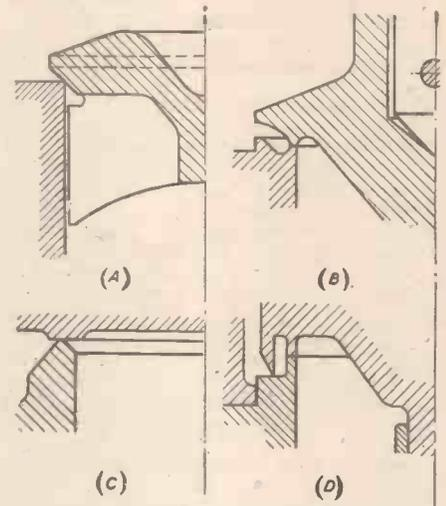

Fig. 2.—Different types of valve seating surfaces.
and earlier valves) is employed, riding on a slightly rounded seat edge as seen in Fig. 2 (A), while in some other designs a pair of narrow surfaces mate. The latter appears to function satisfactorily, but has one possible defect—the sticking of any grit on either surface will cause constant blowing regardless of pressure. Fortunately this rarely happens, the rush of steam when the valve lifts usually cleaning both surfaces thoroughly.
At this time numerous experiments proved the advantages of the lip shown in Fig. 2(B), the lift of the valve being found to increase immediately the steam pressure forced an opening, so obtaining the requisite increased lift times the periphery of opening to give the necessary discharge. By increasing the lift it was found possible to reduce the valve diameter, and various devices were adopted then to obtain increased lifts. In one design it was found that considerable back pressure occurred in the waste steam portion, so preventing the valves from lifting as high as otherwise they would. It was, therefore, decided to utilise the back pressure of the steam in the waste pipe to operate the piston of a relay cylinder and thus assist the valve's lifting action. Such a unit was designed and made as